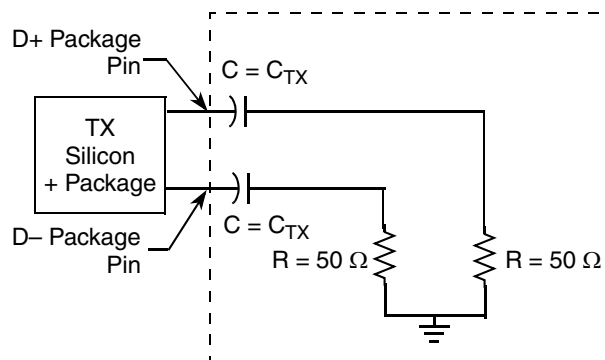

Figure 42. Test/Measurement Load
2. Specified at the measurement point into a timing and voltage test load as shown in Figure 42 and measured over any 250 consecutive Tx UIs.
2. Specified at the measurement point and measured over any 250 consecutive UIs. The test load in Figure 42 should be used as the Rx device when taking measurements. If the clocks to the Rx and Tx are not derived from the same reference clock, the Tx UI recovered from 3500 consecutive UI must be used as a reference for the eye diagram.
The AC timing and voltage parameters must be verified at the measurement point. The package pins of the device must be connected to the test/measurement load within 0.2 inches of that load, as shown in Figure 42.